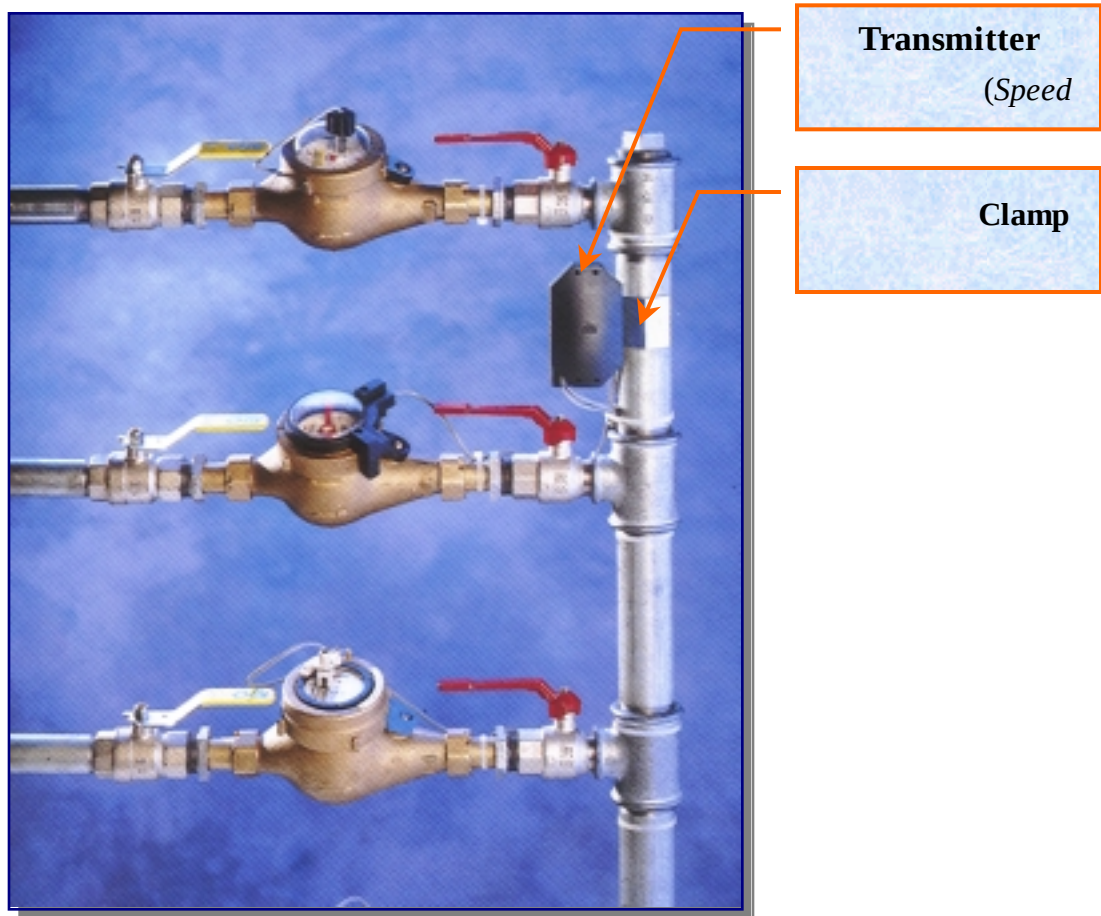

Figure 2-1: Speed HPTx Typical Installation
Figure 2-1 (see next page) shows a typical installation of a ***Speed HPTx*** unit, connected to several meters (of various types) at a single location. The unit can be connected to any type of meter which has a pulsed output (a passive magnetic open/short reed relay).
- a. For pipeline installations (as in Figure 2-1), first attach the stainless steel clamp (see Figure 4-1) to the pipeline, close it around the pipeline and fasten the screw in the middle of the device. Place the unit's box base on top of the screw and install it using two steel screws.